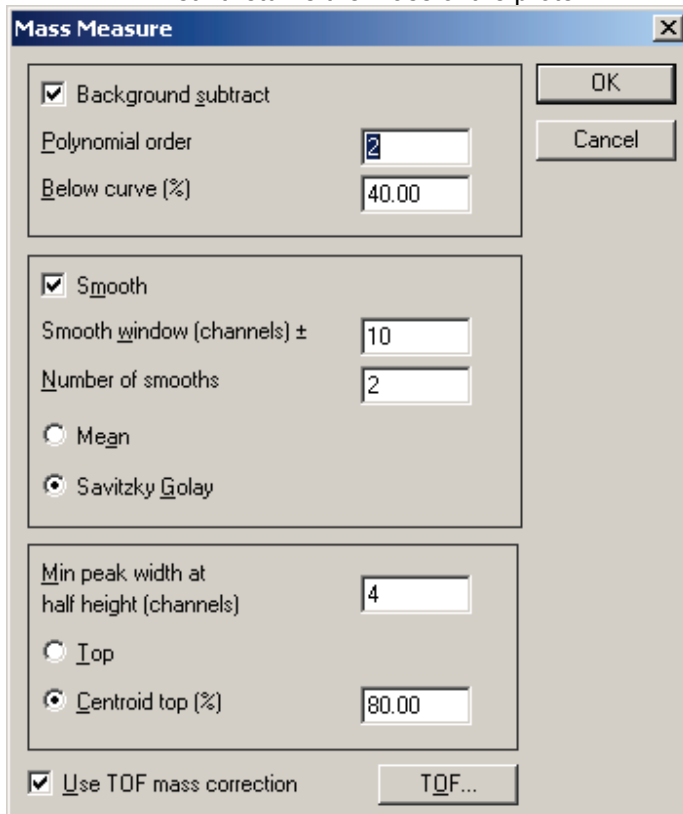

Figure 5: Screen shot of the Mass Measure process menu of MassLynx software
7. Process the combined spectra, i.e.do a background subtraction, smooth and centroid using Mass measure (Figure 5) from the process menu. Record the spectrum – for reference.
13. Process the combined spectra if necessary, i.e. do a background subtraction, smooth and centroid using Mass measure (Figure 5) from the process menu. Record the spectrum – for reference.